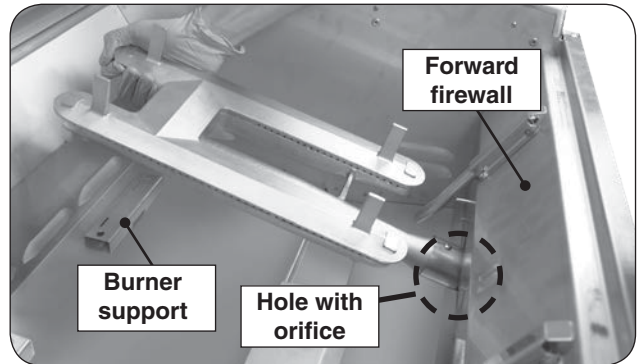

Fig. 42-2 Remove burners
3. Carefully lift the burner from the burner support and out from the hole in the forward fire wall. See Fig. 42-2.